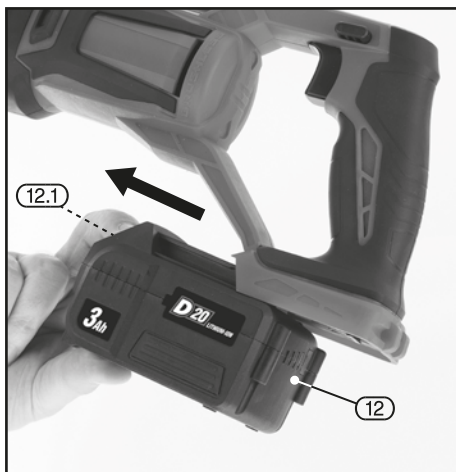

FIG.1
### 8.1 BATTERY PACK CHARGING – FIGS. 1 – 2
- Press the battery release button (12.1) and gently slide the battery pack off (Fig.1).
- Plug the battery charger (11) unit into a 230V/AC 13amp three pin supply socket.